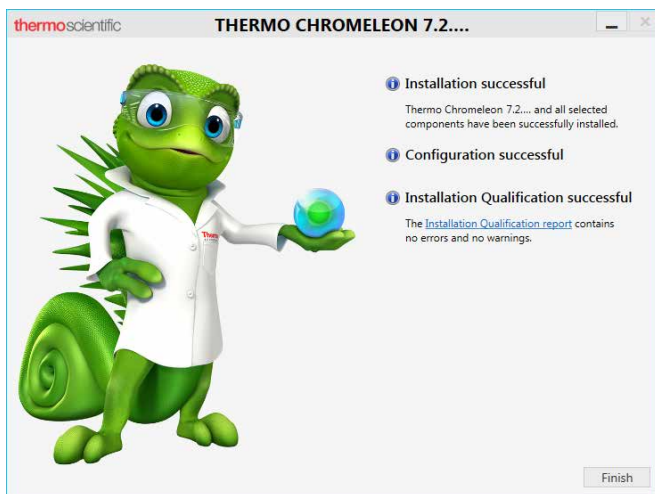

Figure 6: Chromeleon installation complete
- An installation qualification report will be created (Section 5.6). To open the report, click the **Installation Qualification report** link provided in the setup dialog (Figure 6).